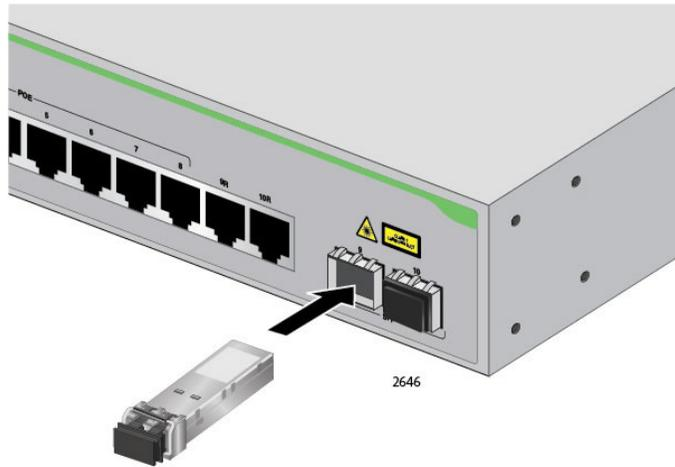

Figure 27. Inserting the SFP
- Slide the transceiver into the SFP slot until it clicks into place. See Figure 27.